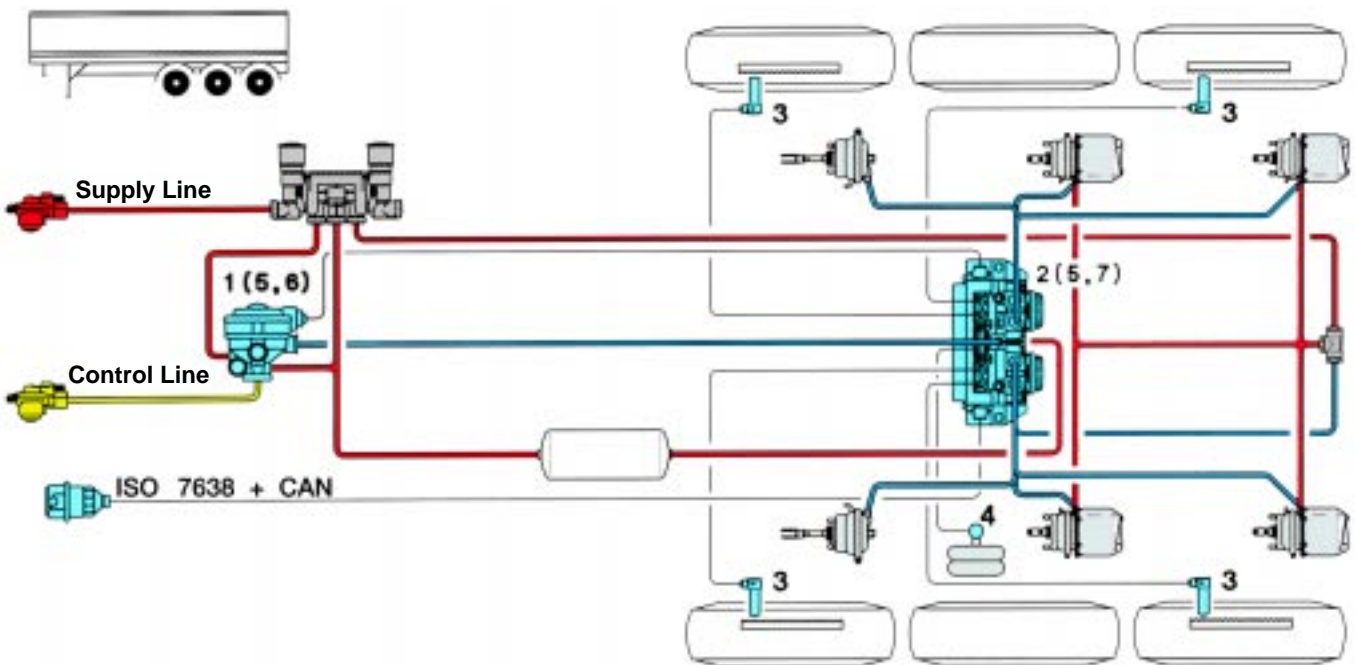

Fig. 2-1: Braking system 4S/2M for semitrailers
This configuration (Fig. 2-1) is described as a 2S/2M or 4S/2M system, depending on the number of speed sensors (3) used.